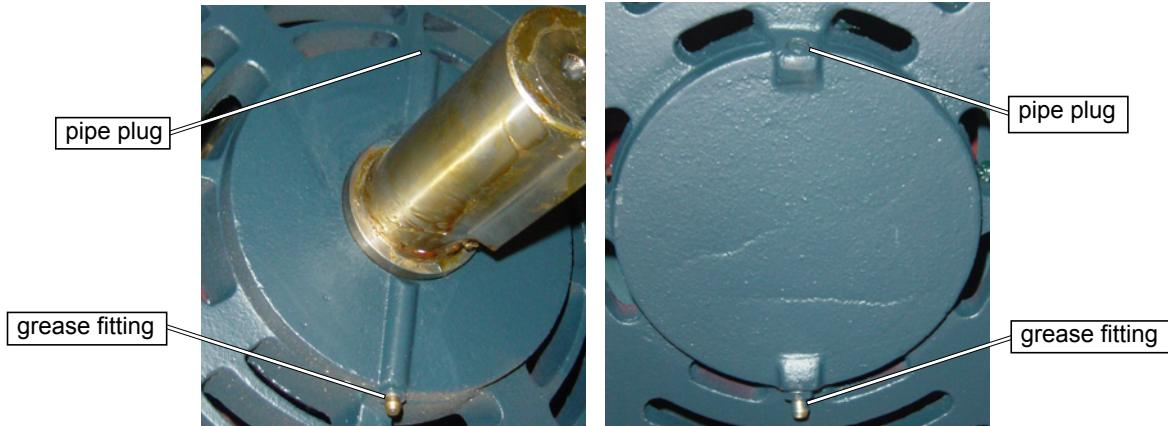

Figure 4-5
- Access the shaft-end of the motor (refer to Figure 4-5):